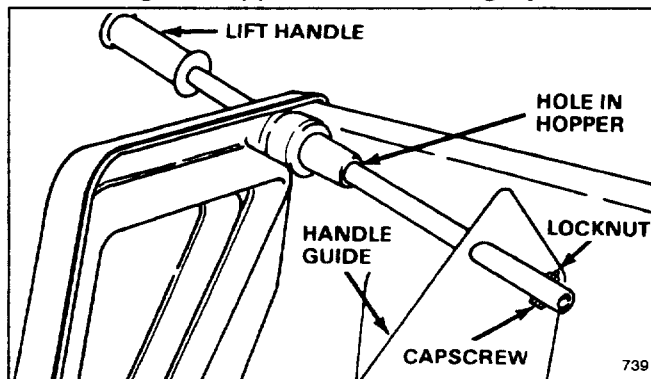

Figure 2
2. Open hopper door and slide lift handle through hole in hopper and handle guide (Fig. 2). Insert capscrew through hole at end of handle and install locknut on capscrew.